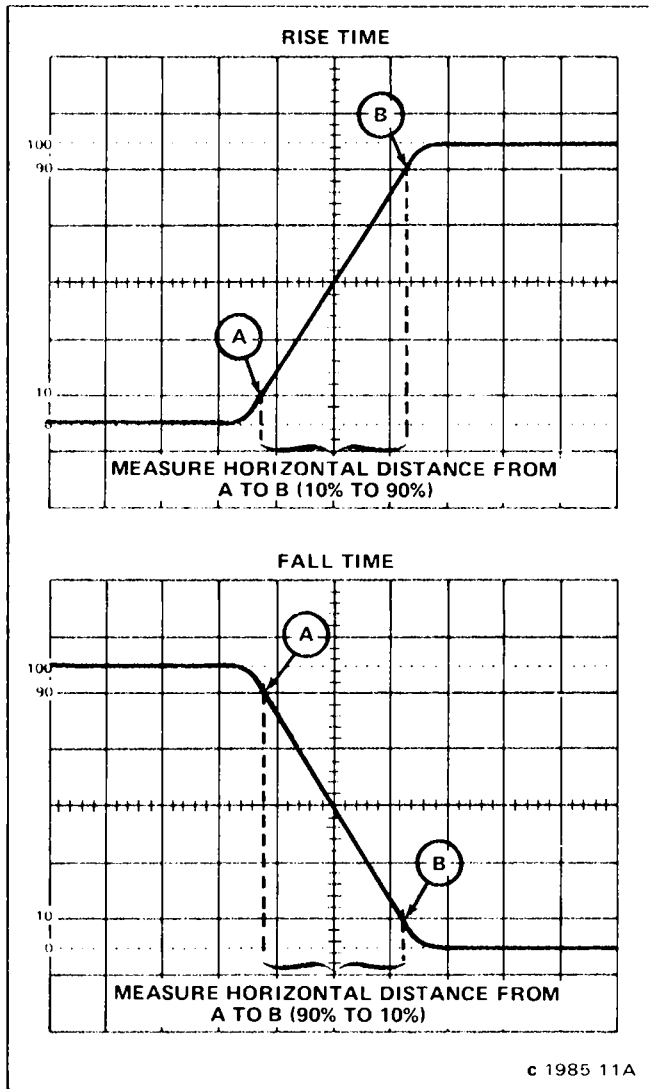

Fig. 2-6. Measuring the rise time and fall time of a displayed waveform.
6. Set the TIME/DIV switch and POSITION control to display the rising or falling portion of the waveform within the center 8 graticule divisions as shown in Figure 2-6 (see General Operating Information in this section for discussion of timing measurement accuracy).
7. Determine rise time or fall time by measuring the horizontal distance in divisions between the point on the rising or falling portion of the waveform that is 10% and the point that is 90% of the total display amplitude (see Fig. 2-6).
Example: Assume that the horizontal distance between the 50% amplitude points is 3 divisions, and the TIME/DIV switch setting is $.1 \mu\text{s}$ (see Fig. 2-6).